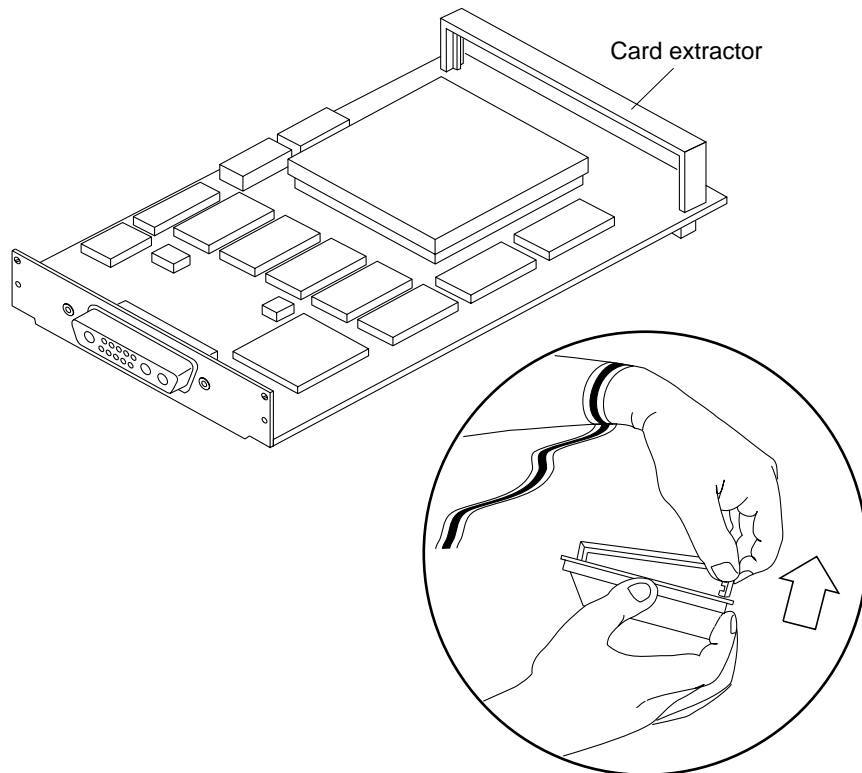

FIGURE 11-15 Removing the SBus Card Extractor
Note – There are single-wide and double-wide SBus cards. FIGURE 11-15 shows a double-wide SBus card being removed.
- a. Bend one leg of the extractor slightly to the outside until the hook clears the hole in the SBus card (FIGURE 11-15).